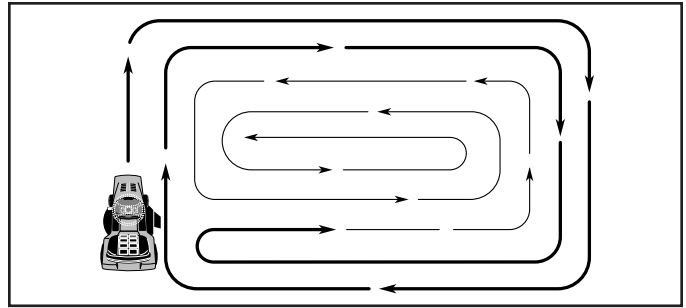

Fig. 22
- When mowing large areas, start by turning to the right so that clippings will discharge away from shrubs, fences, driveways, etc. After one or two rounds, mow in the opposite direction making left hand turns until finished (See Fig. 22).